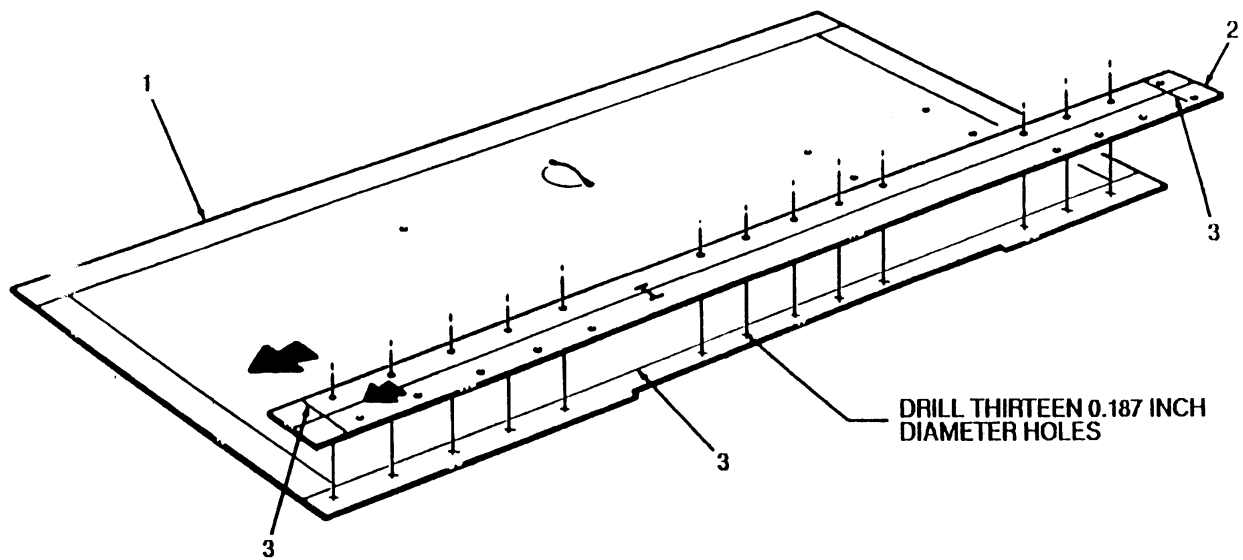
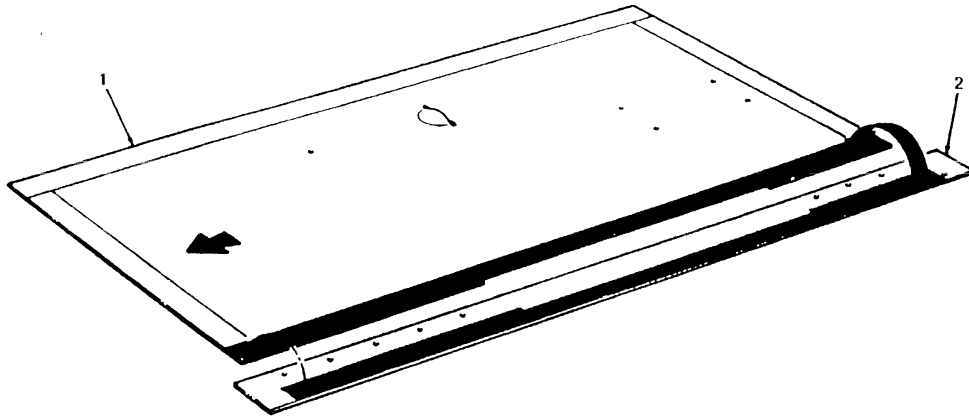

FIGURE 3-39
FIGURE 3-40
1. Place insert panel (1) on a suitable work surface with the arrow facing up and left. (see figure 3-39)
2. Position metal strip "I" (2), with the arrow facing up and toward left, onto insert panel (1). Align reference lines (3).
3. Using metal strip "I" (2) as a template, locate, mark, and drill thirteen 0.187-inch diameter holes in insert panel (1). Remove metal strip "I" (2).
4. Apply approximately 0.125-inch thickness of P/N 89616 Silaprene adhesive sealant to shaded mating surfaces on insert panel (1) and metal strip "I" (2). (see figure 3-40)